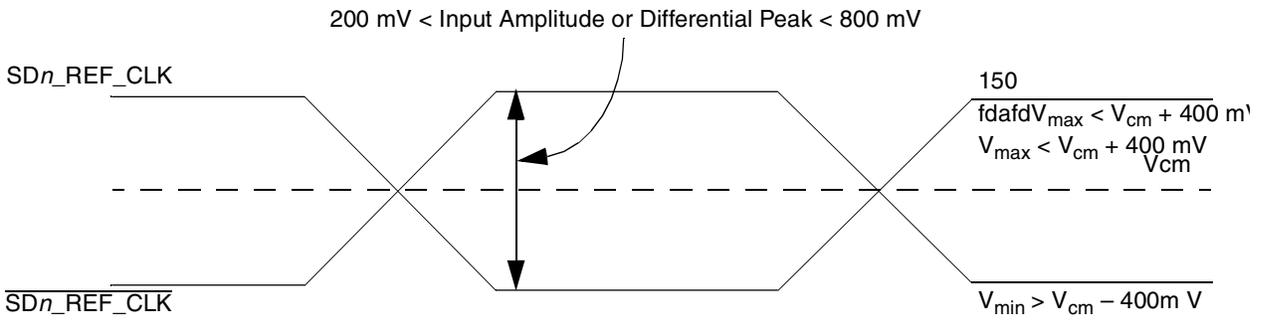

Figure 51. Differential Reference Clock Input DC Requirements (External AC-Coupled)
- For **external AC-coupled** connection, there is no common mode voltage requirement for the clock driver. Since the external AC-coupling capacitor blocks the DC level, the clock driver and the SerDes reference clock receiver operate in different command mode voltages. The SerDes reference clock receiver in this connection scheme has its common mode voltage set to SGND_SRDS_n. Each signal wire of the differential inputs is allowed to swing below and above the command mode voltage (SGND_SRDS_n). Figure 51 shows the SerDes reference clock input requirement for AC-coupled connection scheme.